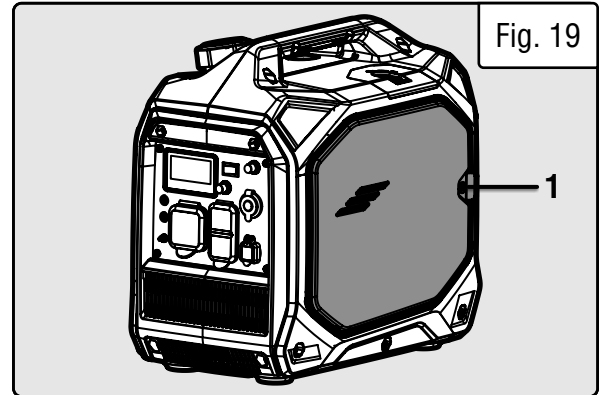

Fig. 19
1. Unscrew the side panel screw (Fig. 19 - 1) and remove the side panel.
2. Unscrew the side panel screw (Fig. 19 - 1) and remove the side panel.